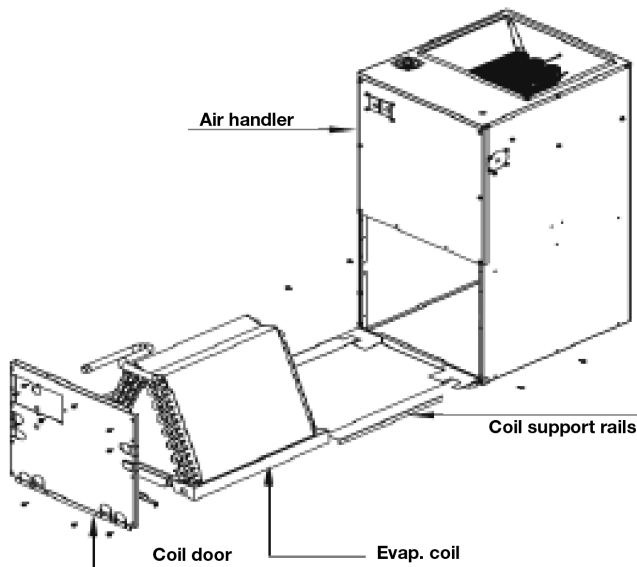

Figure 2. Evaporator Coil Disassembly for conversion to downflow
You must use the downflow conversion kit and follow the instructions below. Refer to Figures 2 and 3.
3. Remove evaporator coil assembly with drain pan by sliding out the front of the unit as shown in Figure 2.
4. Remove 6 screws (3 on each side of unit), securing evaporator coil support rails. Refer to Figure 2.
- Remove the evaporator coil assembly with the drain pan by sliding it out of the front of the unit as shown in Figure 2.